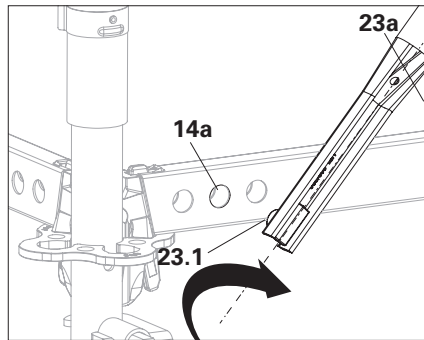

Fig. A4.07a
1. Bring the Ledger Brace UBL-2 (**23**) parallel to the basic scaffold and turn it so that the mounting finger (**23.1**) points upwards. (Fig. A4.07a)